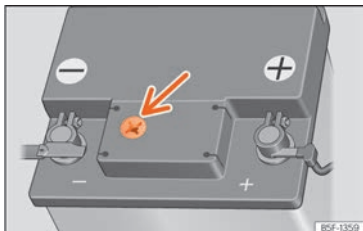

Fig. 210 Sight glass on the top of the 12 volt battery (schematic representation).
- Check the colour display in the sight glass on the top of the battery >>> **Fig. 210**.